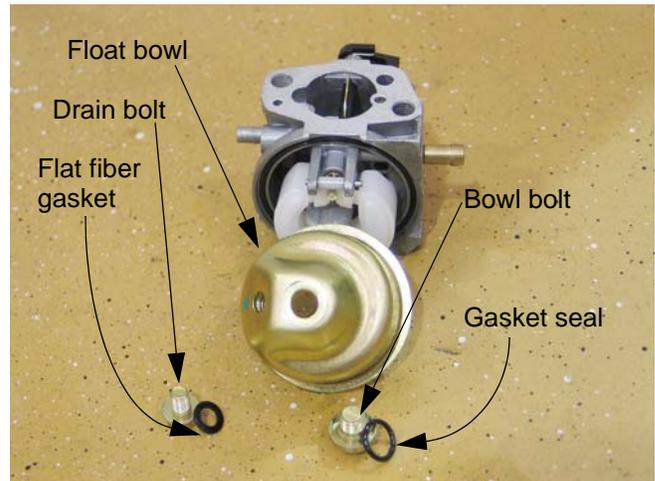

Figure 4.44
3. Remove the bowl bolt using a 10mm wrench. See Figure 4.44.